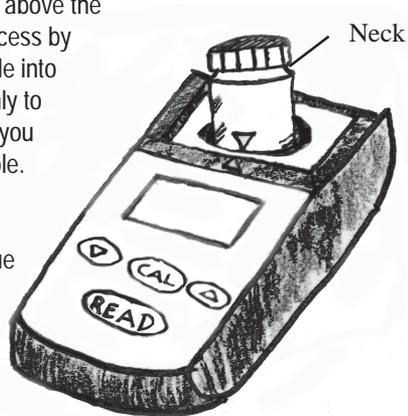

Figure 3-3: Turbidity meter with proper alignment of indexing arrows.
6. Carefully invert the first tube (tube A) twice just before inserting the tube into the meter. Align the indexing arrow on the tube with the indexing arrow on the meter (Figure 3-3).